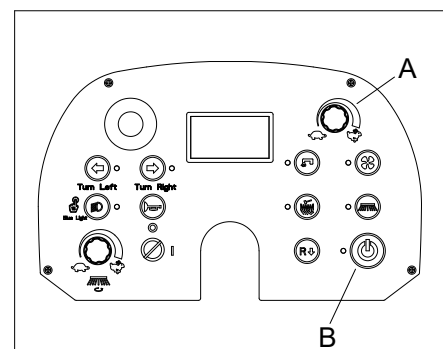

Figure 12
When operating on wet floors, it is essential to turn off the vacuum system by pressing the vacuum button (A, Figure 12) to prevent the dust filter from being damaged.
5. For machine proper operation, the dust filter must be as clean as possible. To clean it while sweeping, turn on the filter shaker by pressing the filter shaker button (B, Figure 12). During this operation the vacuum motor is automatically shut off. After cleaning the filter, the vacuum system resumes working automatically; then start sweeping again. While working, “filter auto cleaning” mode can be activated by pressing filter shaker button (B, Figure 12) for 1 second, which can repeat the filter cleaning procedure every 10 minutes on average (depending on the dustiness of the area to be cleaned, interval can be set from 1 to 60 minutes, parameter setting refer to the Service Manual).